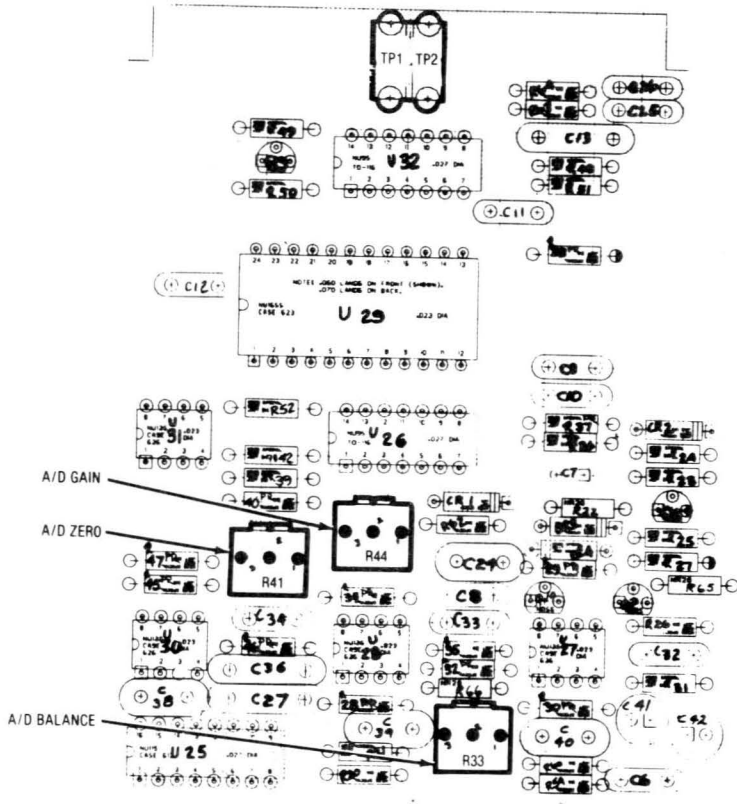

Figure 5-19. Processor I/O A/D Alignment Points
9. Disconnect the external DVM. With the DVM input jack still shorted adjust the A/D Zero Potentiometer on the I/O Board (figure 5-19) for a 0.0 VDC reading on the R2001B CRT display.
11. Adjust the A/D Gain Potentiometer on the Processor I/O Board (Figure 5-19) for a DVM reading on the CRT equal to the voltage measured at TP 12 with the external DVM for paragraph 5-119.6.
14. Adjust the A/D Balance Potentiometer on the Processor I/O Board (Figure 5-19) for a DVM reading on the CRT equal to the voltage measured at TP11 with the external DVM in step 13.